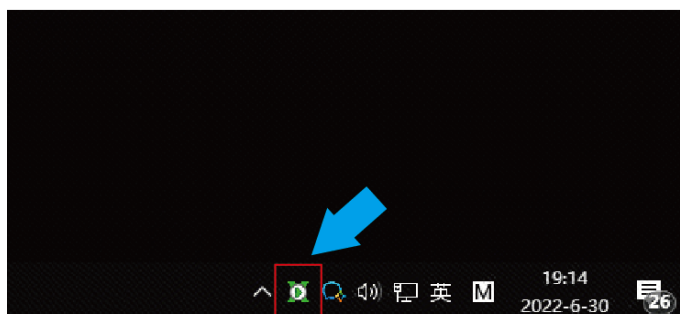

Figure 7-2 Server is running.
- By default, the server starts automatically when the computer is powered on. When the server software is running, you can find the server icon in the task bar at the lower right corner of the computer display (Figure 7-2 Server is running.).